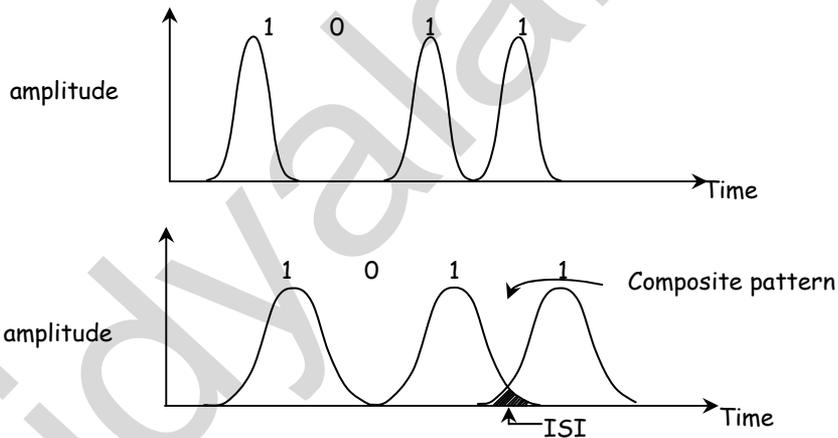

Fig. 1: Pulse broadening
- As shown in Fig. 1, each pulse broadens and overlaps with its neighbours eventually becoming indistinguishable at the receiver inputs the effect is known as intersymbol interference.